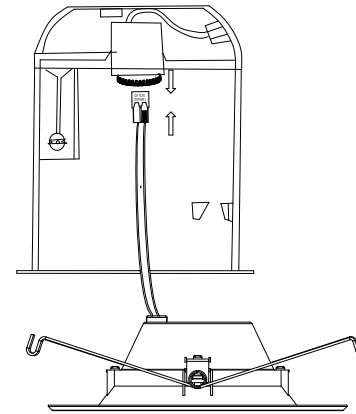

Figure 2
STEP4: Plug the connector of the retrofit kit into the connector of the socket adapter assembly. (Figure 2)